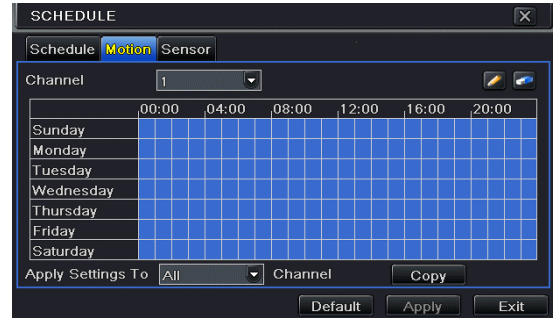

Fig 4-17 Schedule Configuration-Motion
Step1: Enter into Menu→Setup→Schedule→Motion tab. Refer to Fig 4-17: